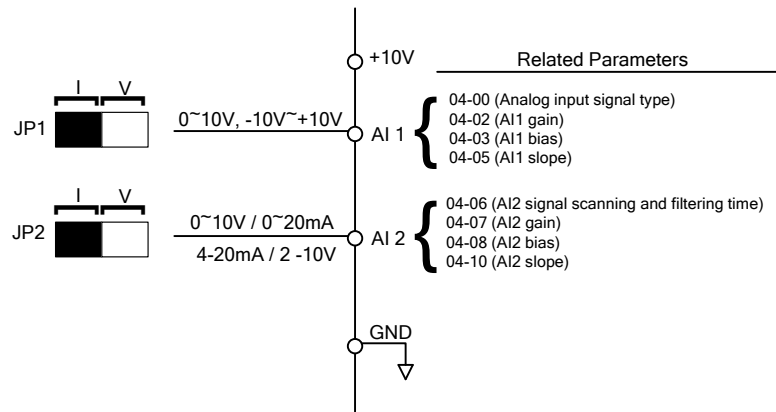

Figure 4.3.35 Analog inputs and related parameters
- (1) Analog input level adjustment AI1/AI2(04-02, 04-03,04-07, 04-08)
- Analog input signal AI1 can be adjusted with parameter 04-02 and 04-03. Analog input signal AI2 can be adjusted with parameter 04-07 and 04-08.Refer the figure 4.3.35 .